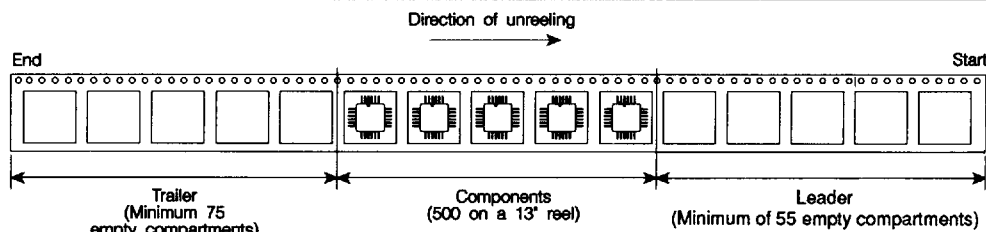

Fig.3 Layout of Tape
6.2 There will be a leader of a minimum of 55 empty compartments, at the start of the carrier tape (See Figure 3).
6.4 At the end of the tape there will be a trailer of a minimum of 75 empty compartments (See Figure 3).